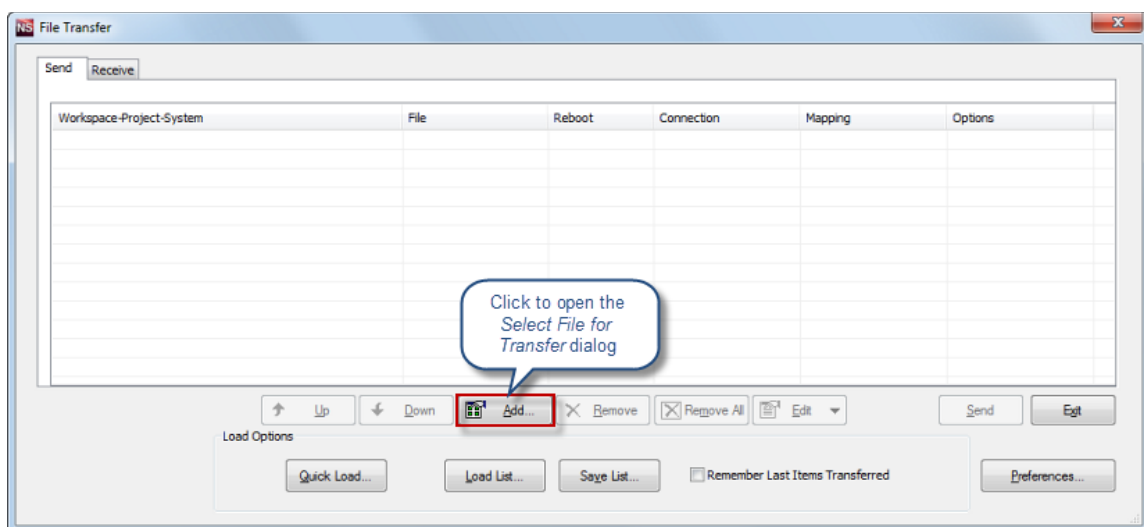

FIG. 159 NetLinX Studio 4 - File Transfer dialog
2. Select **Tools > File Transfer** to open the *File Transfer* dialog (FIG. 159):